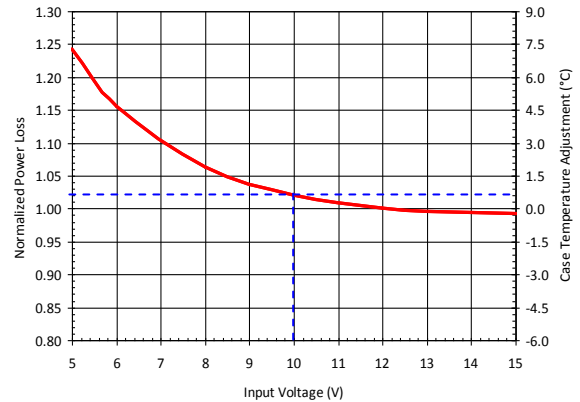
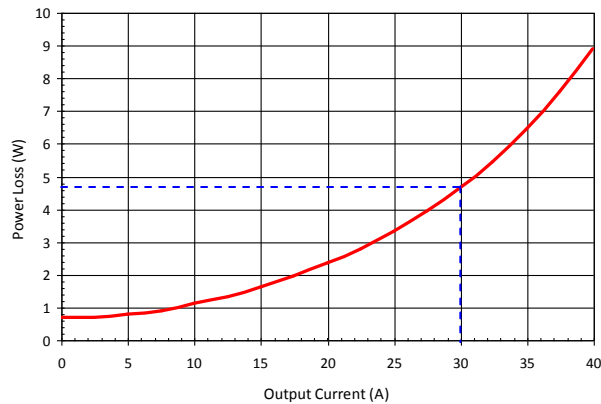
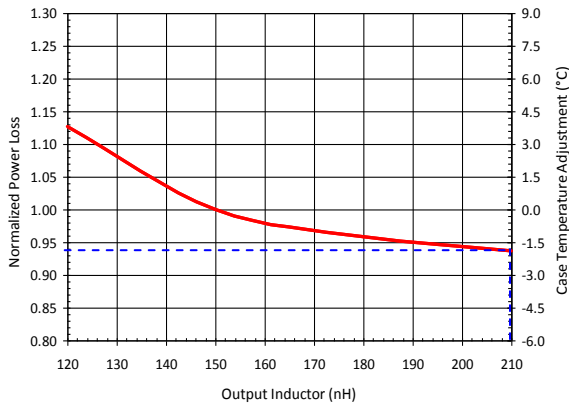

Figure 10: Normalized Power Loss vs. Input Voltage
Figure 8: Typical IR3553 Power Loss
Figure 14: Power Loss vs. Output Inductor
The measured single-phase IR3553 power loss under the same conditions is provided in Figure 8.
If any of the application condition, i.e. input voltage, output voltage, switching frequency, VCC MOSFET driver voltage or inductance, is different from those of Figure 8, a set of normalized power loss curves should be used. Obtain the normalizing factors from Figure 10 to Figure 14 for the new application conditions; multiply these factors by the power loss obtained from Figure 8 for the required load current.
- 1) Determine the power loss at 30A under the default test conditions of $V_{IN}=12V$, $V_{OUT}=1.2V$, $f_{SW} = 400kHz$, $L=150nH$, $V_{CC}=7V$, $T_{AMBIENT} = 25^{\circ}C$, no heat sink, and no air flow. It is 4.7W from Figure 8.
- 2) Determine the input voltage normalizing factor with $V_{IN}=10V$, which is 1.02 based on the dashed lines in Figure 10.
- 6) Determine the inductance normalizing factor with $L=210nH$, which is 0.94 based on the dashed lines in Figure 14.
If any of the application condition, i.e. input voltage, output voltage, switching frequency, VCC MOSFET driver voltage, or inductance is different from those of Figure 9, a set of IR3553 case temperature adjustment curves should be used. Obtain the temperature deltas from Figure 10 to Figure 14 for the new application conditions; sum these deltas and then subtract from the IR3553 case temperature obtained from Figure 9 for the required load current.
- 13) Determine the case temperature with L=210nH, which is -1.8° based on the dashed lines in Figure 14.